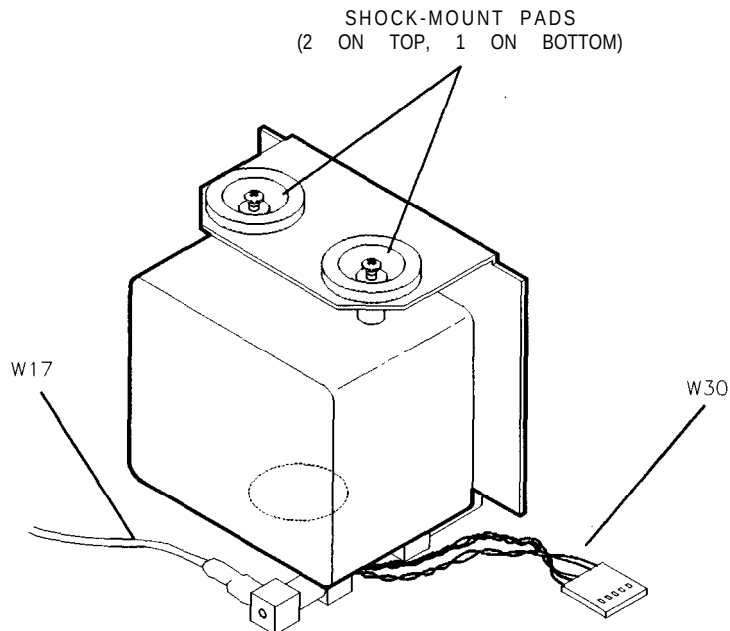

Figure 7-13. Reference Standard Mountings
1. Disconnect cable W17 and the pin-locking tab, W30. Refer to Figure 7-13.